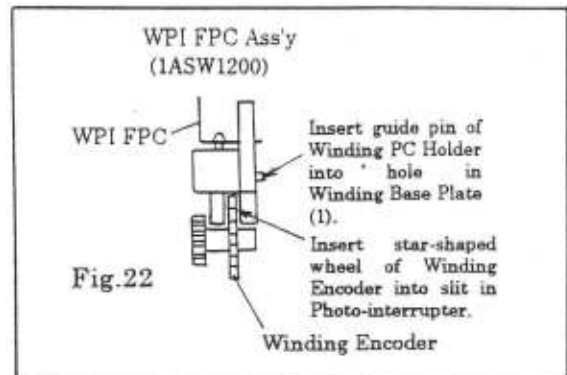

Fig.22
- Install the WPI FPC Ass'y (IASW1200) on the Winding Base Plate (1) so that the star-shaped wheel of the Winding Encoder (IAS32710) enters the slit in the Photo-interrupter. Also install the WPI FPC Ass'y so that the two guide pins of the Winding PC Holder enter the holes in the Winding Base Plate (1). Then tighten the WPI FPC Ass'y Setscrews (61902226). (See Fig. 22)